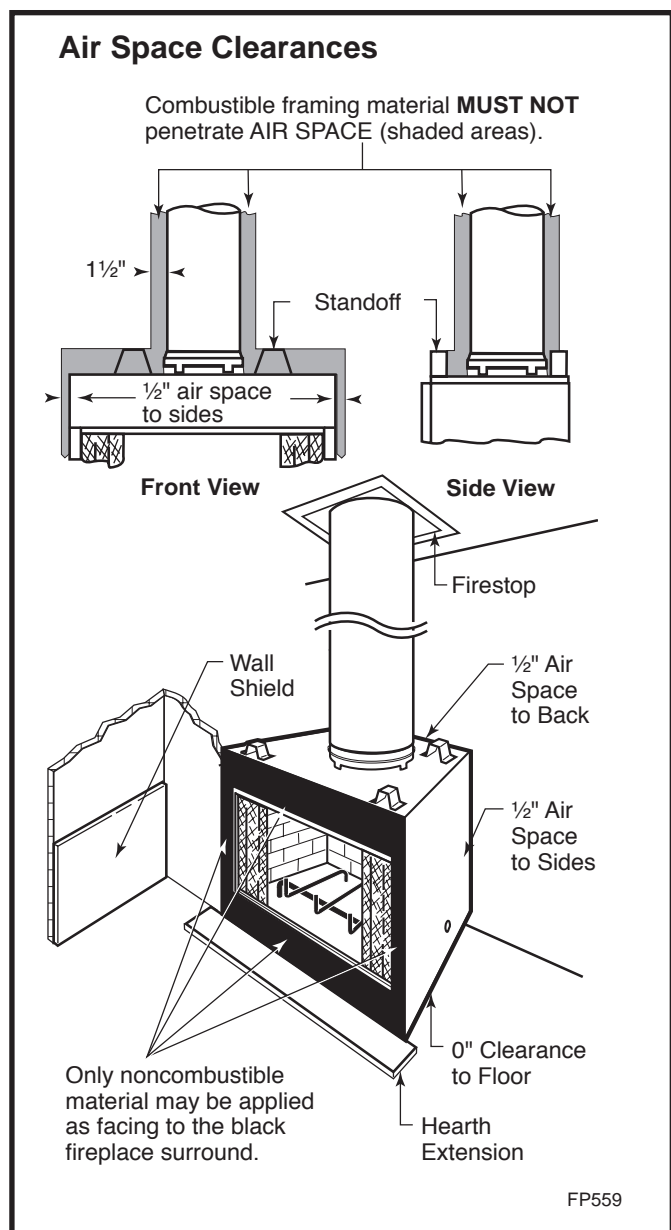

Fig. 21 Minimum clearances to combustibles.
**CAUTION: WHEN INSTALLING A FIREPLACE IN AN INSULATED ENCLOSURE, BE SURE ALL REQUIRED AIR SPACES ARE MAINTAINED.** (Page 21, Fig. 21)
**CAUTION:** All joints between the finished wall and the fireplace surround (top/sides) must be sealed with non-combustible material to prevent cold air leakage into the room. Only noncombustible material may be applied to the facing of the fireplace surround. (Black painted area) (Fig. 21)